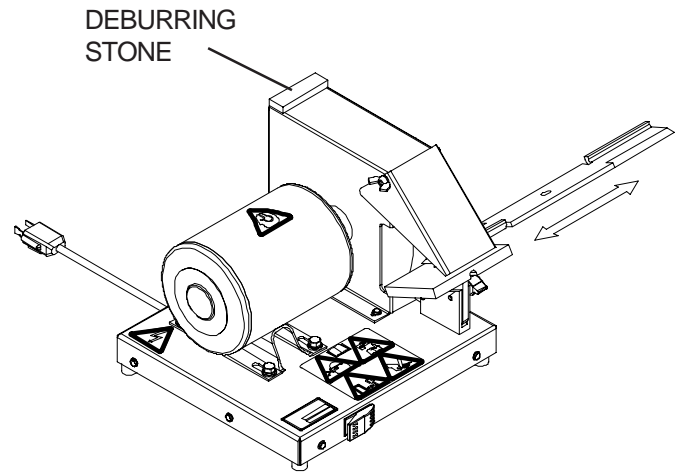
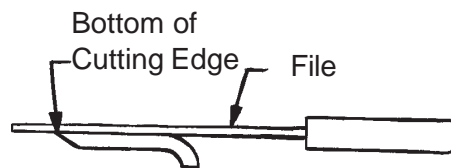

FIG. 5
FIG. 9
- A. With the motor off, adjust the angle of the blade guide so the wheel surface is in contact with the rotary mower blade. See FIG. 5. Match the angle of the cutting edge whenever possible. The cutting edge angle should be approximately 30°. If it is not, adjust the blade guide until the desired bevel is achieved. Adjust the guide for minimum space between grinding wheel and guide.
- C. Holding the blade firmly, move the blade from the center to the outside end in a smooth, even motion until the blade is sharp. See FIG. 5.
When the blade has been sharpened, stroke the bottom of the cutting edge of the blade across the deburring stone to remove any burr buildup. See FIG. 5. A flat file may also be used to remove the burr. See FIG 9.
Rotary mower cutting blades with the cutting edge at an angle to the body of the blade and "S" style blades must be ground by holding the blade in the same way as shown in FIG. 5 except the blade must be held at an angle to the grinding wheel. This will permit the cutting edge of the blade to be at a right angle to the grinding wheel. By maintaining this angle and by moving the blade from center to the outside end, a uniform cutting edge will be ground.